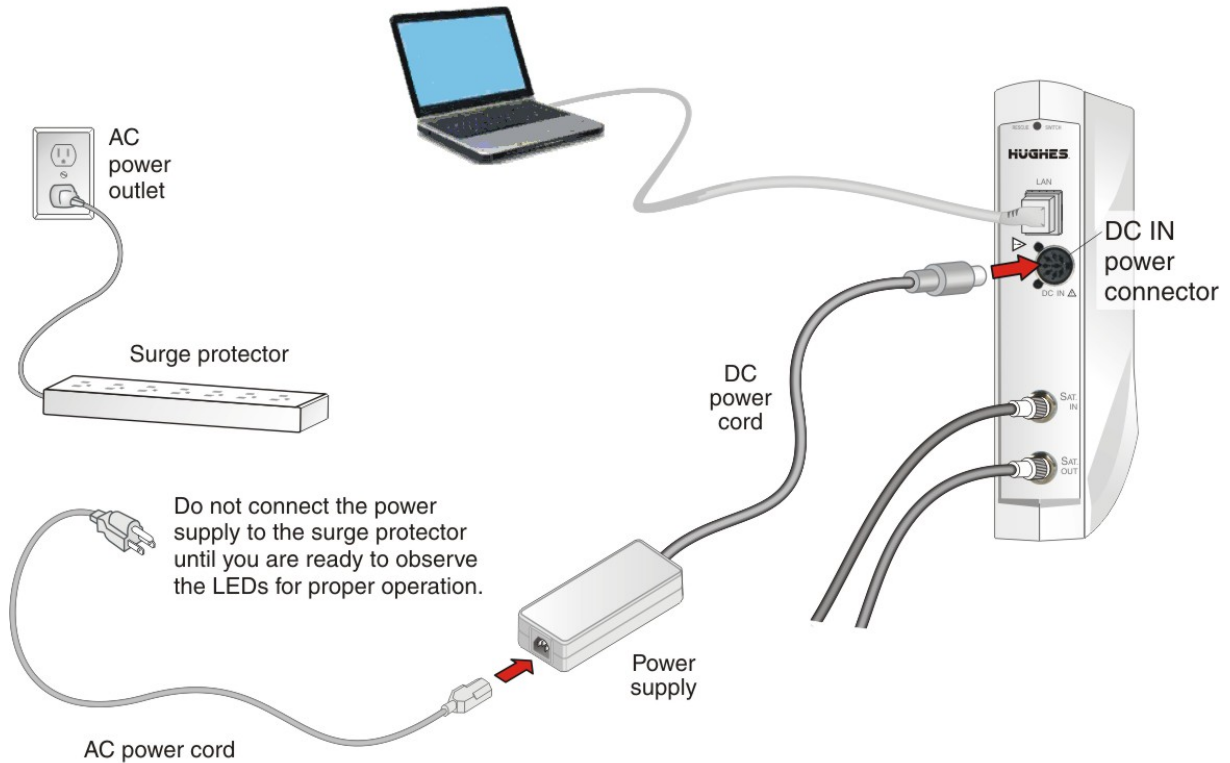

Figure 7: Connecting an AC power supply
2. Connect the DC power cord to the DC IN port on the modem, as shown in *Figure 7: Connecting an AC power supply* on page 18.